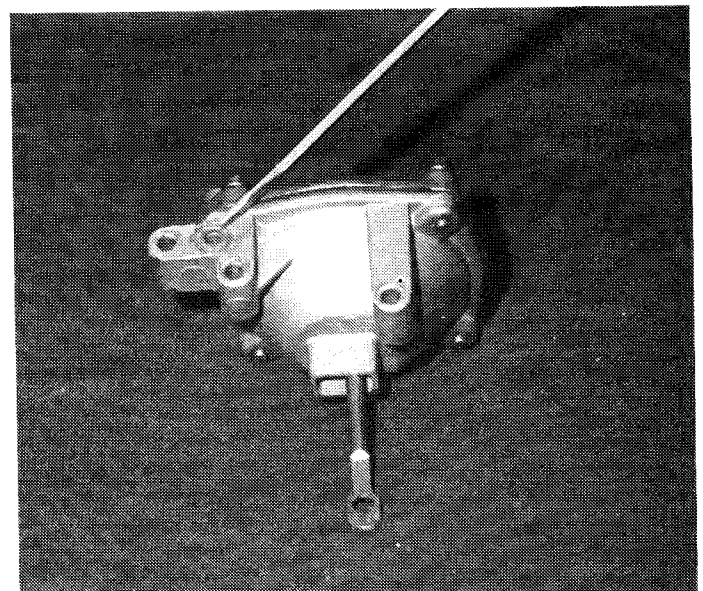

Fig. 11: Make sure cork gasket in secondary diaphragm housing seals properly with vacuum passage in main body.
6. Make sure cork gasket in secondary diaphragm housing mates with main body casting and reassemble. Fig. 11.